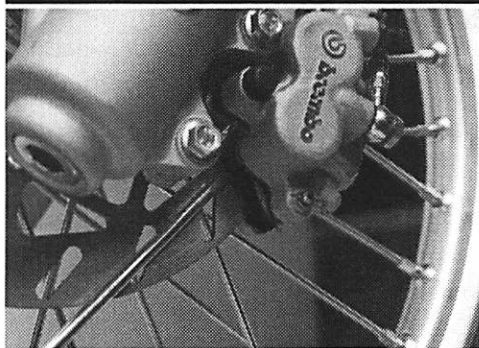

Figure 6.1
1. Gently place a screwdriver between each brake pad and the rotor. Then using a twisting motion, force each pad away from the rotor. This pushes the caliper pistons back into the caliper and makes room for the new, thicker pads. (Figure 6.1)